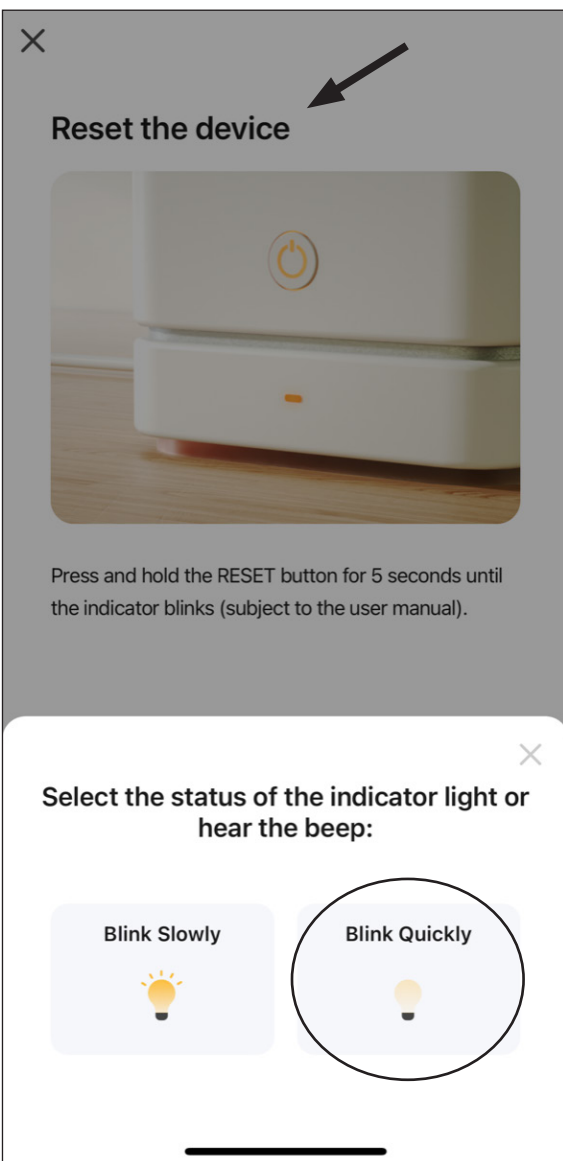
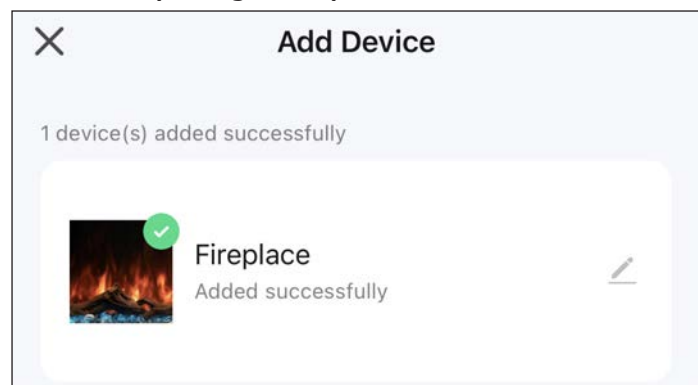

Figure 20: Fireplace Pairing
Figure 21: Fireplace Successfully Paired
7. With the fireplace now in pairing mode select the **Blink Quickly** option on the **Reset the Device** screen in the app (see figure 20). The app will begin pairing to the fireplace on a timing screen and automatically finish once pairing is successful (see figure 21).